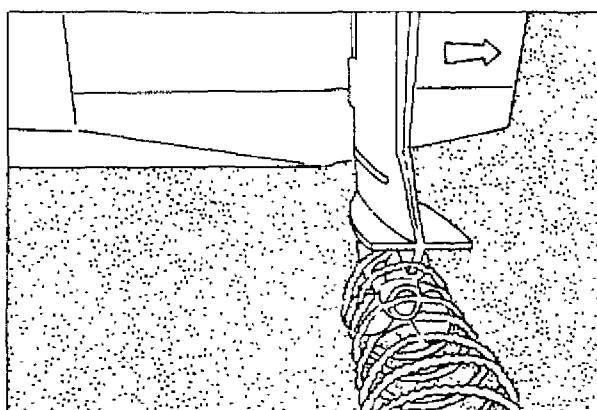

Figure 7:2
- b. **Pitch** - The distance travelled forward by one revolution of the propeller. Propeller pitch is like the gear ratio in a car and should be individually selected to suit boat design and usage. Too little pitch will cause a motor to overspeed which will cause motor damage. Too much pitch will overload the motor and reduce performance (see Fig 7:2).